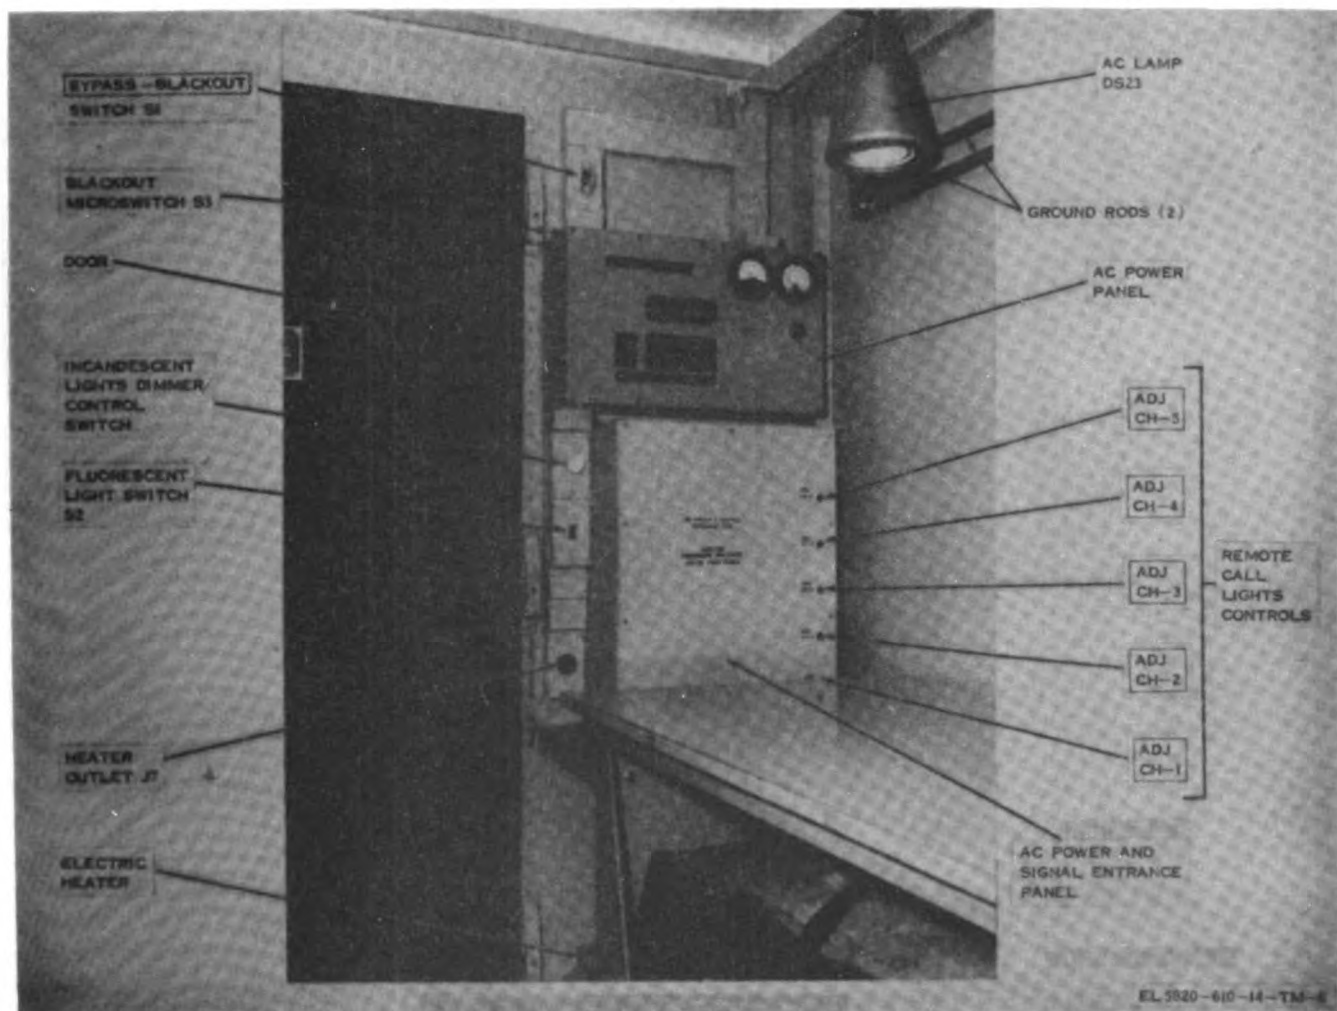

Figure 1-12. AN/TRC-133A shelter interior, left lower corner view.
d. Heater (fig. 1-12). The two thermostatically controlled heaters in the shelter contain a 1,500-watt heating element. A switch on the top of the heater permits the heating element and fan to be operated together; the fan can also be operated alone for air circulation.